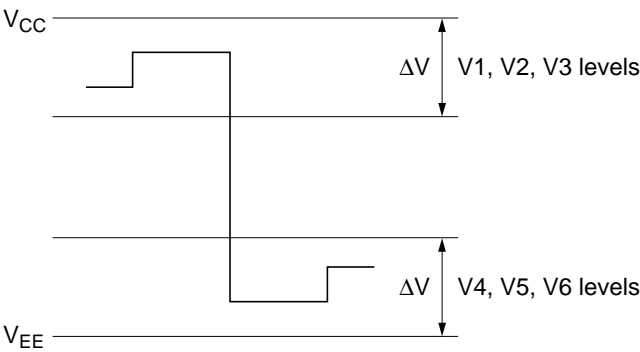

Figure 36 Driver Output Waveform and Voltage Levels
4. $\Delta V = 0.35 \times (V_{CC} - V_{EE})$. For levels V1, V2, and V3, the voltage employed should fall between the V_{CC} and the ΔV and for levels V4, V5, and V6, the voltage employed should fall between the V_{EE} and the ΔV (figure 36).